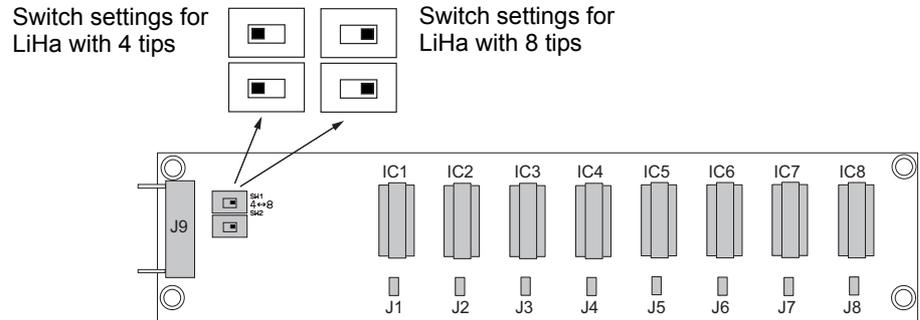

Figure 6-74 ILID board
- Make sure the two ILID board switches are set according to the number of tips (see Figure 6-74).